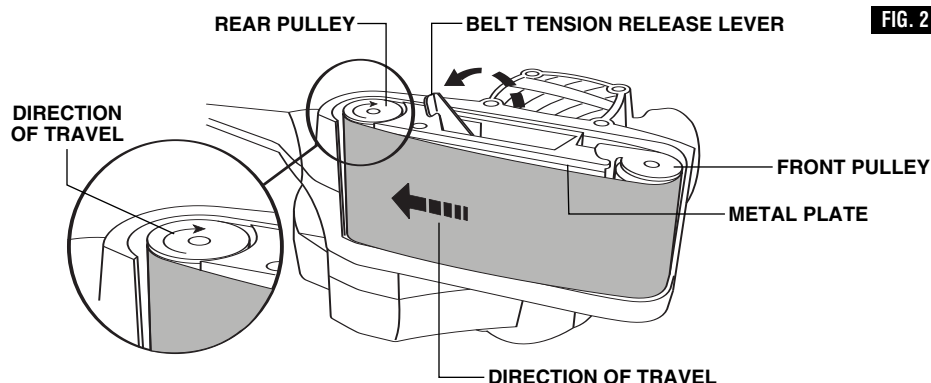

FIG. 2
1. Place sander on it's side and move lever in direction of arrow to retract front pulley and release belt tension (Fig. 2).